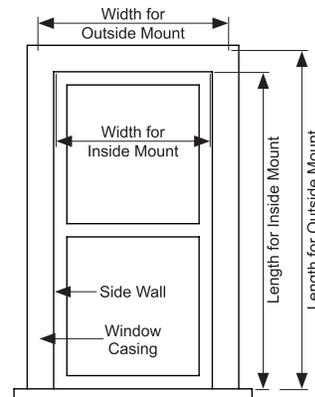
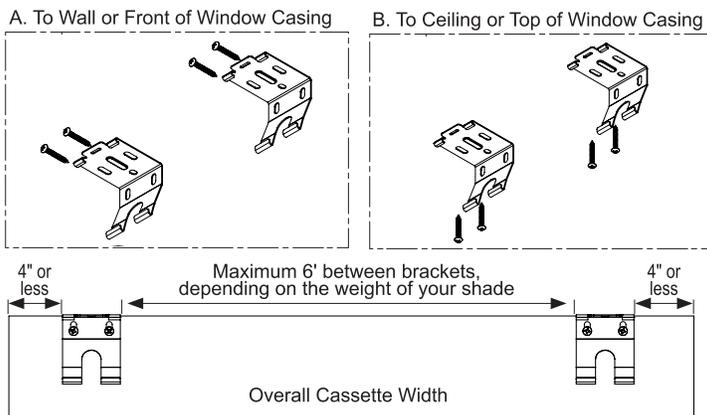

Figure 5. Measurements on a window
Figure 6. Install Brackets
Step 1. See Figure 5.
Step 4. Mount the brackets to the window casing according to the marked locations in **Figure 5** (see page 1). **Figure 6** shows the proper placement options. Brackets should be mount no more than 4" from the end of the cassette. For long cassettes, use more wall brackets. Maximum 6' between wall brackets, depending on the weight of your shade.